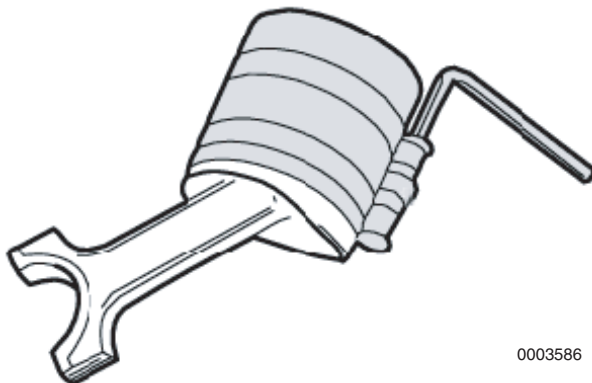

Figure 5-58
7. Position the piston rings so that the ring gaps are distributed evenly (approximately 120° apart) around the piston and **not** in line with the wrist pin. Install piston ring compressor (**Figure 5-58**).